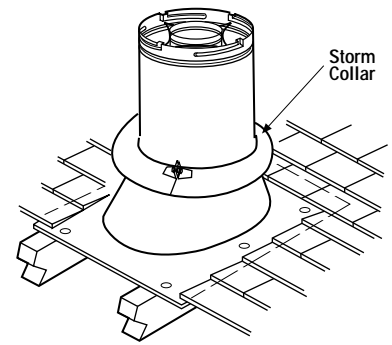

Figure 21
K. Install the storm collar - Install the storm collar, supplied with the flashing, over the vent/flashing joint. See **Figure 21**. Loosen the storm collar screw. Slide collar down until it meets the top of the flashing. Tighten the adjusting screw. Apply non-combustible caulking or mastic around the circumference of the joint to provide a water tight seal.